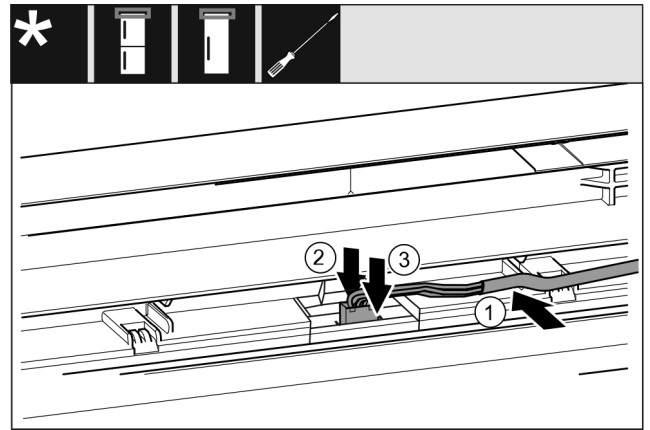

Fig. 42 Fridge/freezer combinations/freezers/cooling units
- ▶ Carefully insert the cable *Fig. 42 (1)* into the guide in the top door.
- ▶ Press the latching tab *Fig. 42 (2)* towards the back.
- ▶ Snap in the plug *Fig. 42 (3)*.